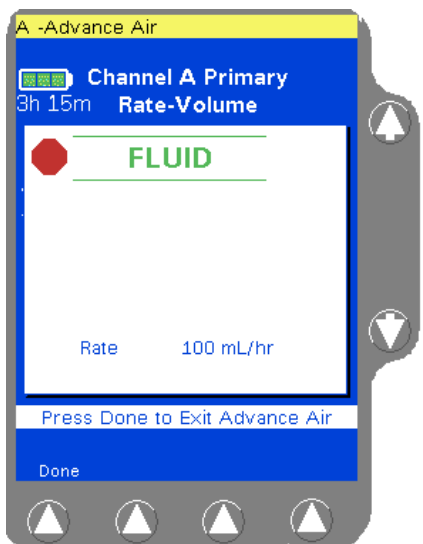

Figure 8-12 Fluid Detected, Advance Air Stopped
3. Release the **Advance Air** soft key. The pump stops infusing (Figure 8-12).